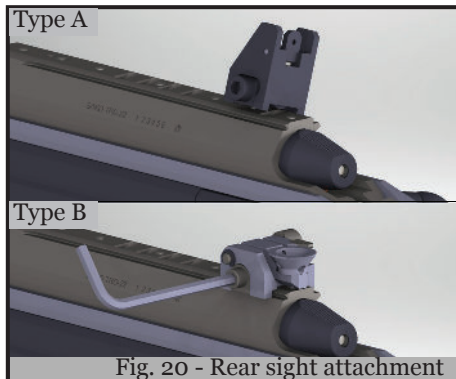

Fig. 20 - Rear sight attachment
2. Align the recoil shoulder with the rear groove on the rail. (Fig. 20)